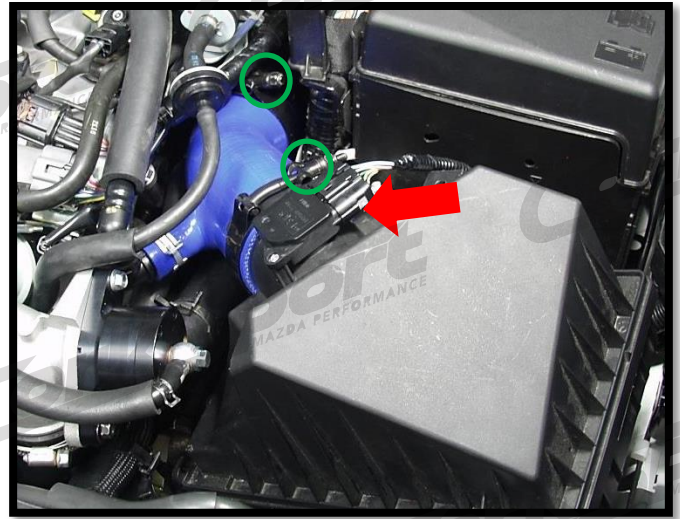

Figure 2b
g) **Adjust the elbow so that it fits well and there is no kinking.** Tighten the two (2) T-bolt clamps (green circles in Figure 2b).
h) **Plug the MAF sensor back in** (red arrow in Figure 2b).